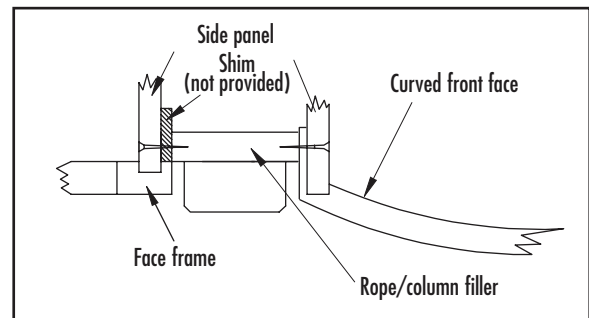

Figure 24
- Clamp filler and any necessary shims in place. Shim to be used on cabinet adjacent to curved cabinet (Figure 24).